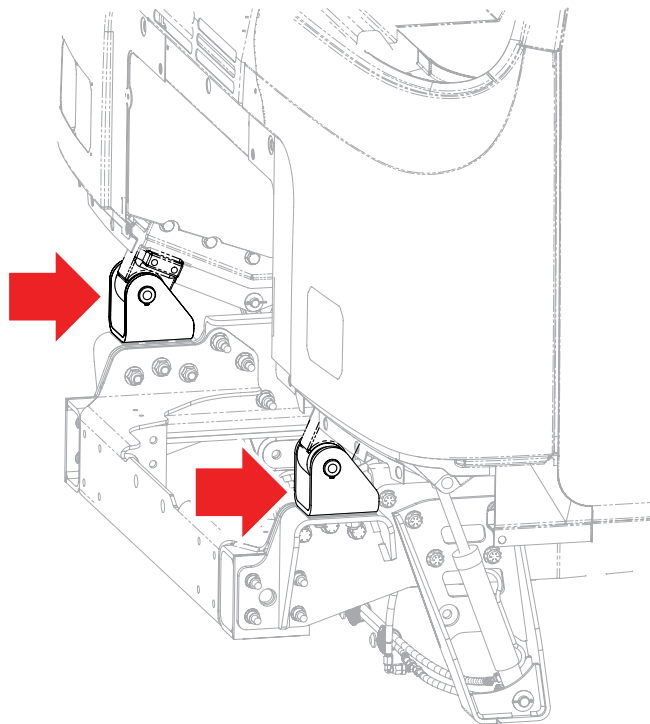

Figure 1
2. Locate the cab tilt pins at the front of the vehicle (see Figure 1).